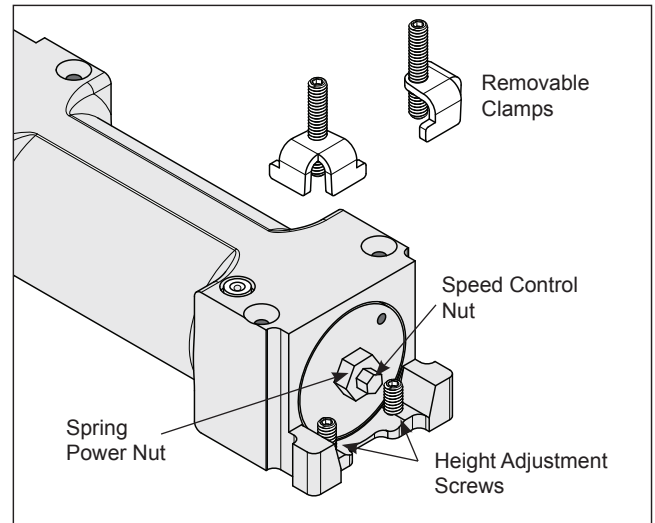

FIG. 11
10. Fully tighten each clamp screws and height adjustment screws for a firm fit. **(Fig. 11)**
12. Adjust the smaller hex nut to control a smooth closing speed of approximately 5 to 7 seconds from a 90° degree open position. **(Fig. 11)**